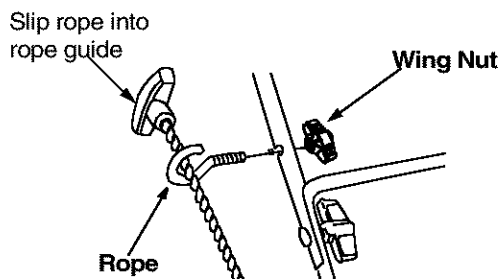

Figure 8
The rope guide is already attached to the right side of the lower handle of your mower. See Figure 8 .
- With the spark plug wire disconnected and grounded, hold the blade control handle against the upper handle, and pull the starter rope up to the rope guide. See Figure 8 .